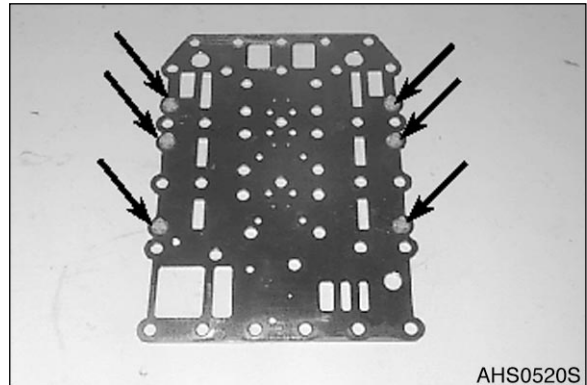

Figure 69
A. Insert screens (6x) flash mounted into bore of intermediate plate, see Figure 69.